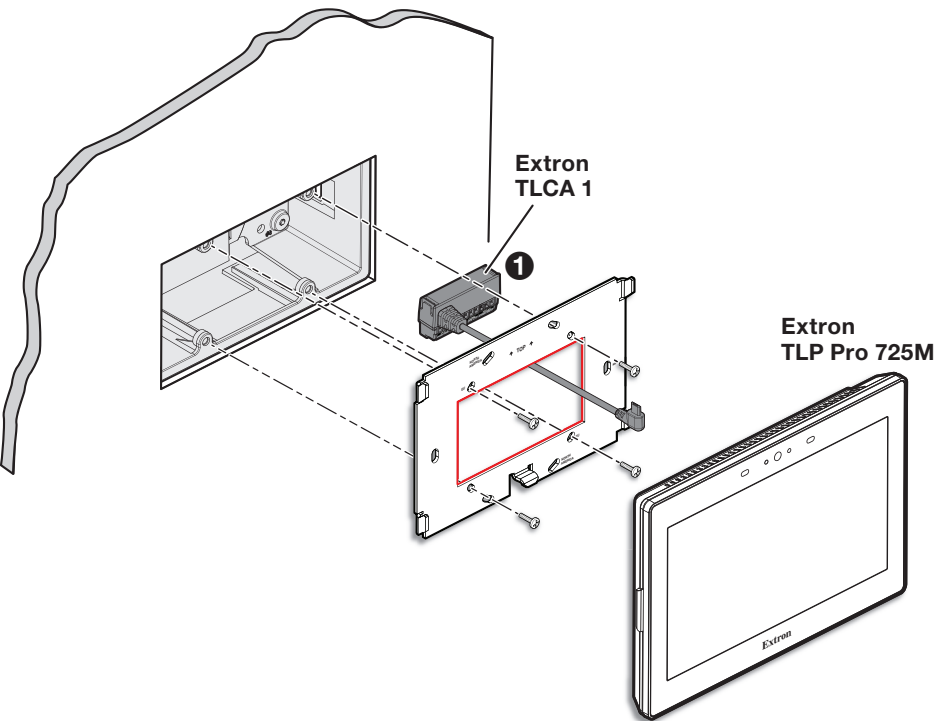

Figure 13. Mounting TLCA 1 to drywall or junction box
Route the TLCA 1 thru the mounting plate opening (see figure 13, ❶) and into the drywall or junction box (if applicable). This also applies to the RM (rack mount) and RWM (recess wall mount).